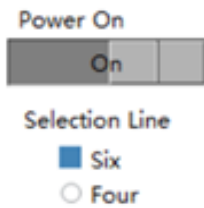
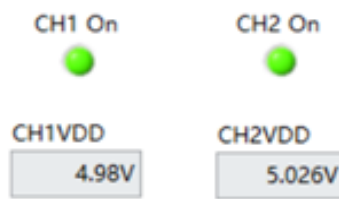

Figure 5.3.6 Powered on successfully
Figure 5.3.7 Powered on abnormally
- Click the button below "Power on/off chip" to power on the chip. When it is powered on successfully, the power on indicator light will remain green (Figure 5.3.6); When it is powered on abnormally, an error pop-up will appear, displaying powered on abnormally (Figure 5.3.7). At this time, it is necessary to check the chip and hardware connections before attempting the power on operation again